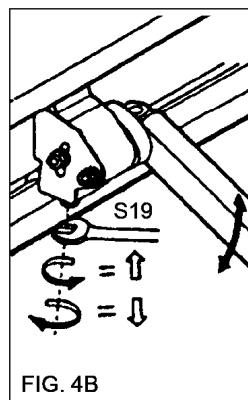

FIG. 4B
- \* adjust the height by turning the lower adjusting bolt (fig. 4B).